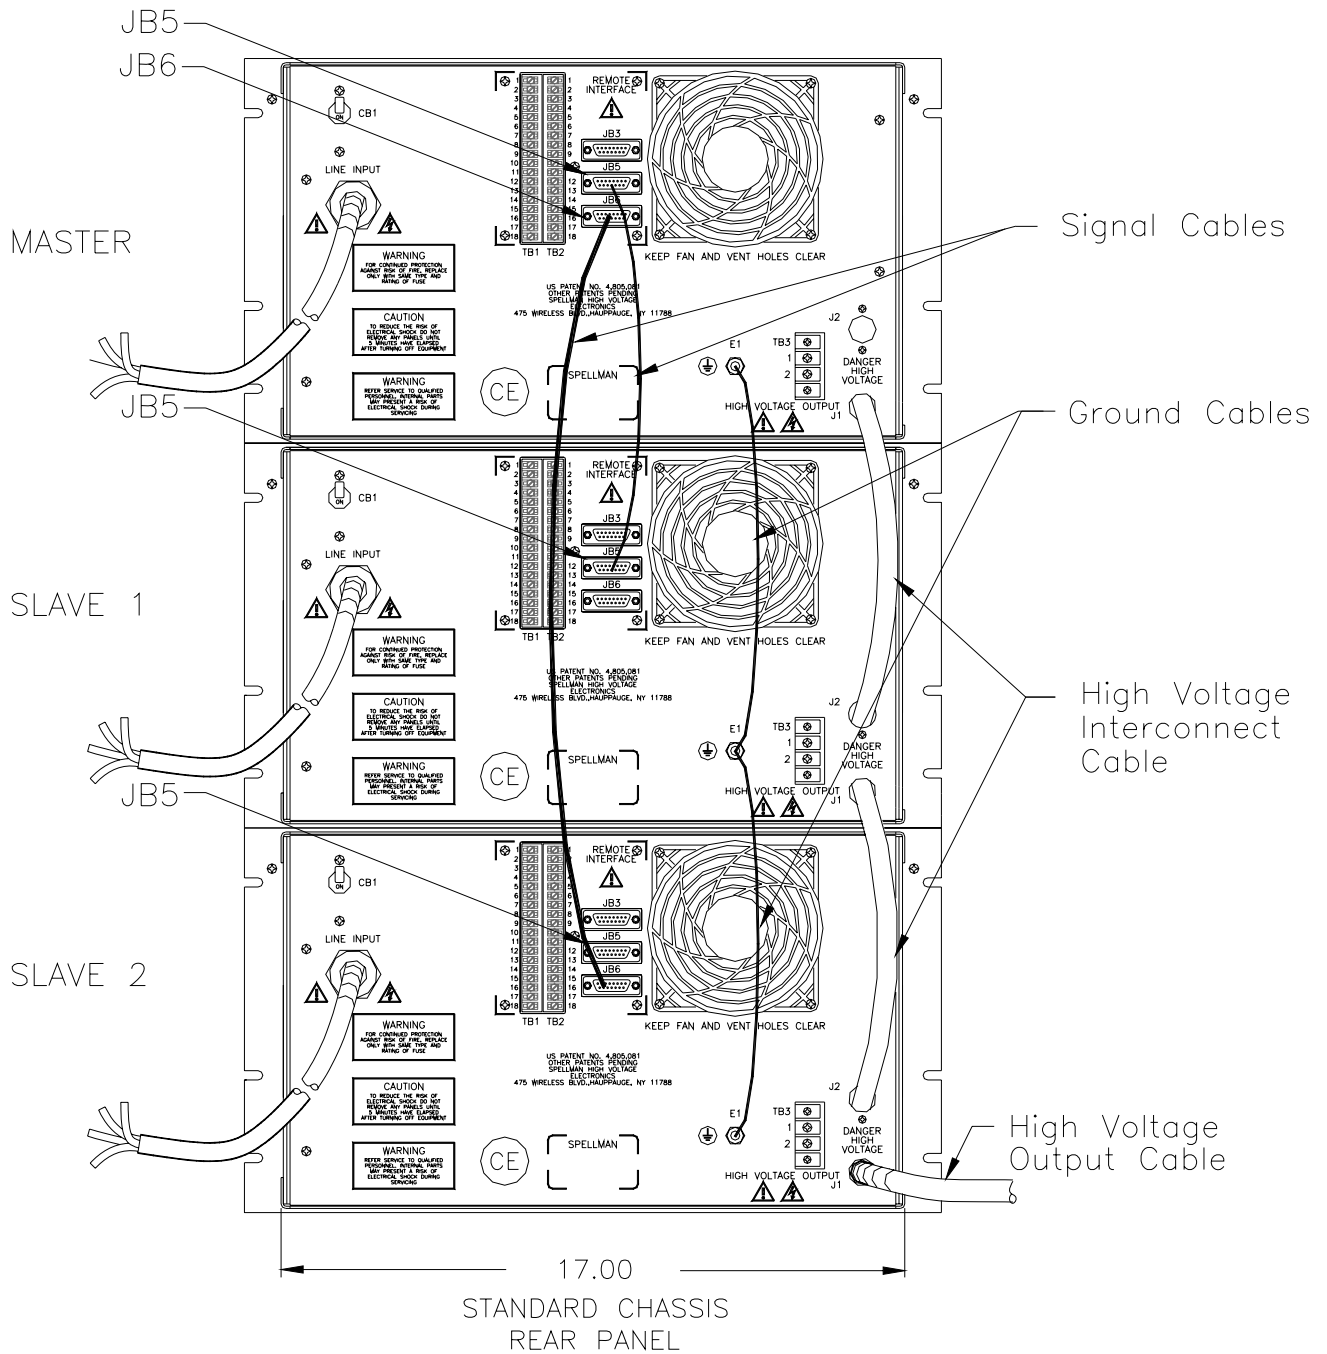

Figure 5.6 18kW Installation Drawing
1. Install the racks per Installation Drawing Fig. 5.6.